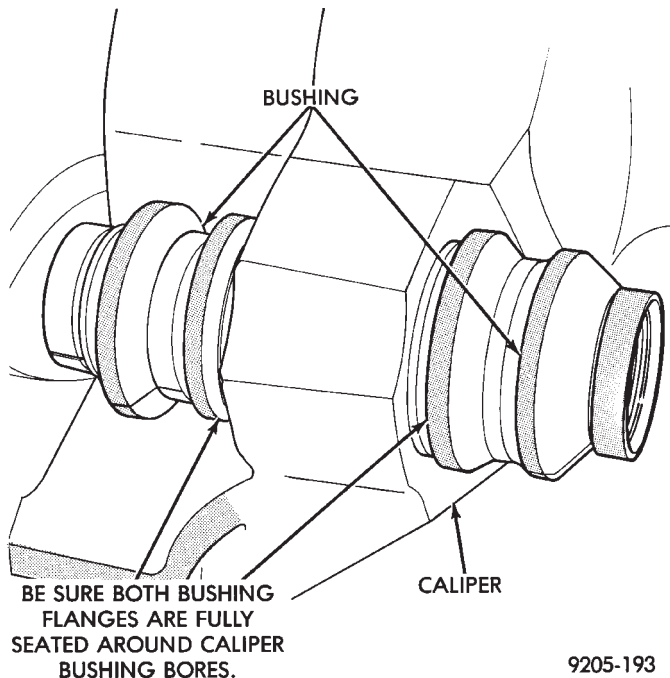
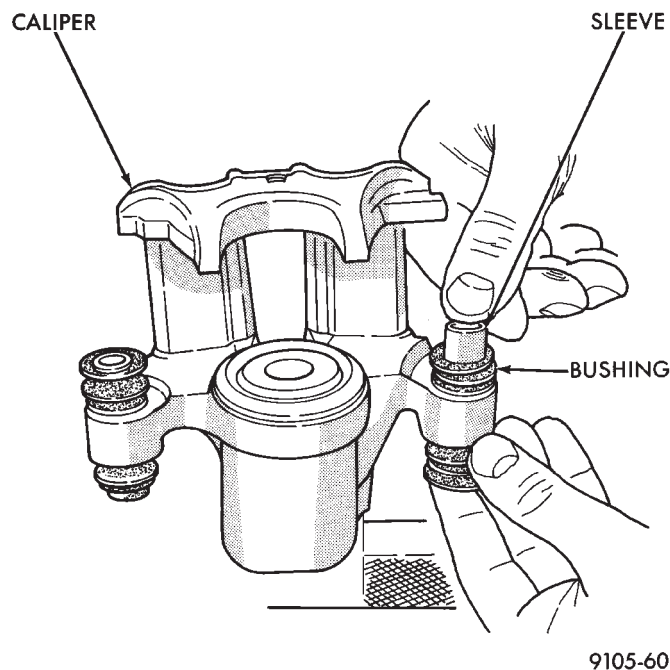

Fig. 81 Bushing Correctly Installed In Caliper
Fig. 82 Installing Sleeve In Bushing
(3) Unfold the bushing using your fingers or a wooden dowel until the bushing is fully seated into the caliper housing. Flanges should be seated evenly on both sides of the bushing hole (Fig. 81).
(4) Lubricate the inside surfaces of the bushing using Mopar, Silicone Dielectric Compound or an equivalent.
(5) Install guide pin sleeve into one end of bushing until seal area of bushing is past seal groove in sleeve (Fig. 82).
(6) Holding convoluted boot end of bushing with one hand, push steel sleeve bushing through boot until one end of bushing is fully seated into seal groove on one end of sleeve (Fig. 82).